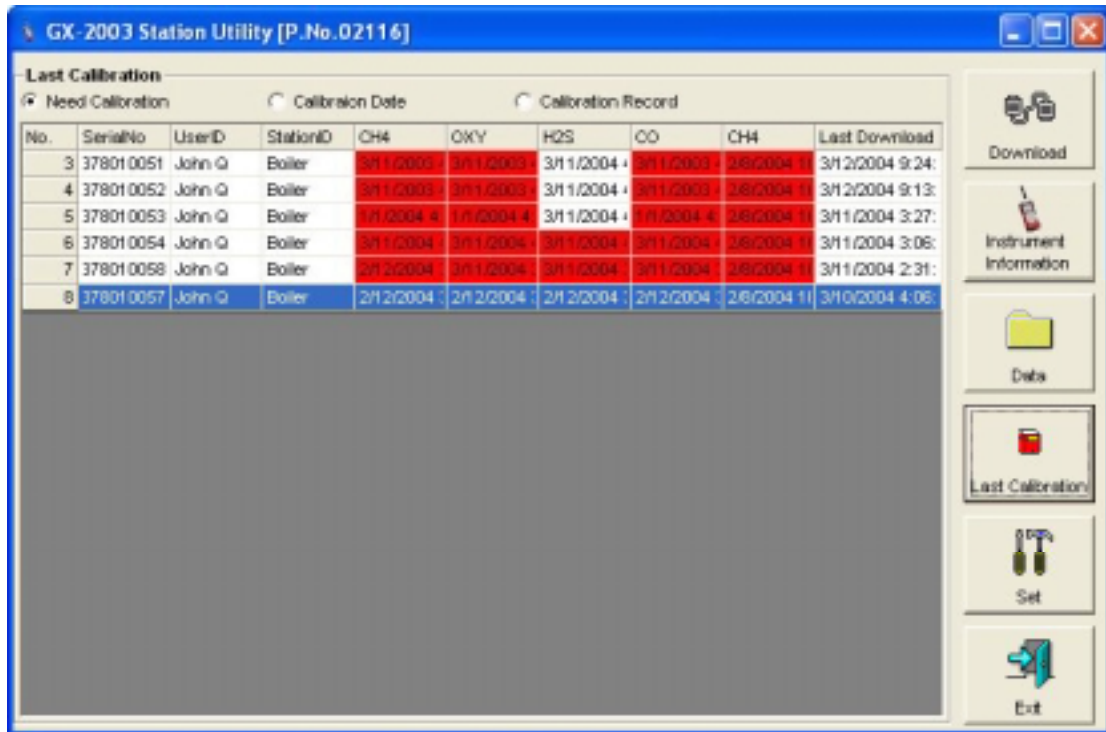

Figure 9: Last Calibration Information: Need Calibration Option
- **Calibration Date** — selecting this option shows the calibration information for all the GX-2003 units that are in the software database. The fields for the Need Calibration and Calibration Date screens are the same. Figure 9 shows the